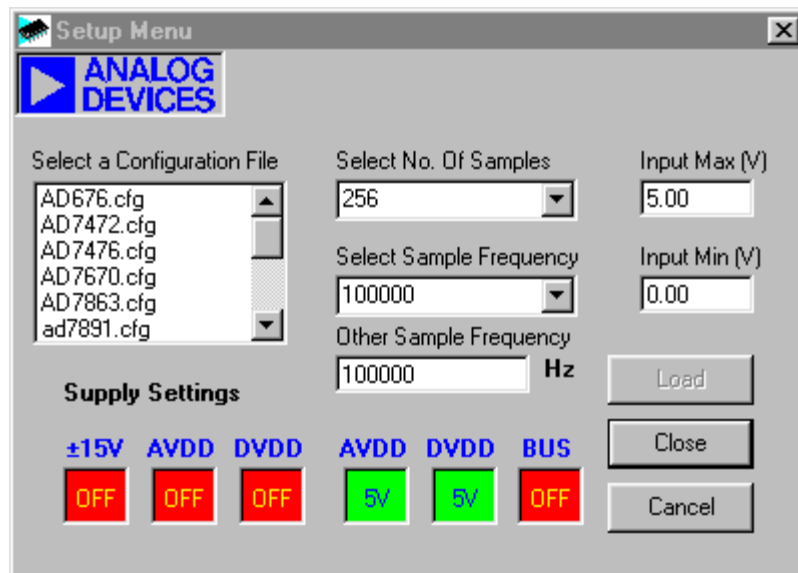

Figure 3. The Setup Screen
The Setup Screen is responsible for allowing the user to load a configuration file for the evaluation board. The configuration file will give the software detailed information about the evaluation board and part connected to the Evaluation Board Controller such as number of bits, maximum sampling rate, power supply requirements etc. The configuration file also tells the software the name of the DSP program file which it should download to the Evaluation Board Controller. These files are supplied by Analog Devices with the evaluation board. Figure 3 shows the Setup Screen.
**Setup Menu:** Selecting this option displays the Setup Screen as shown in Figure 3.